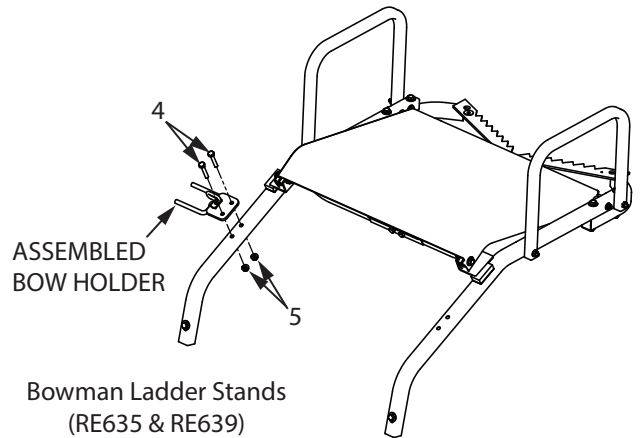

FIGURE 2
2. Attach the assembled bow holder to the side rail with bolts (4), and locknuts (5). Installation is the same for both the right and left side. **SEE FIGURE 2.**